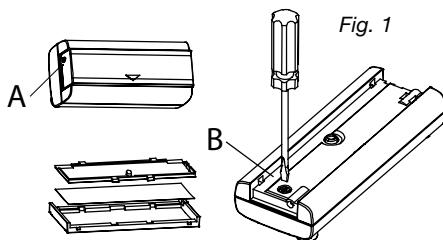

Fig. 1
Using a ball point pen, press at point shown in Fig 1 (A) and remove the name plate. If desired, you can prise apart the two halves of the name plate and write on the card. Undo the retaining screw (B) and remove the back of the push.